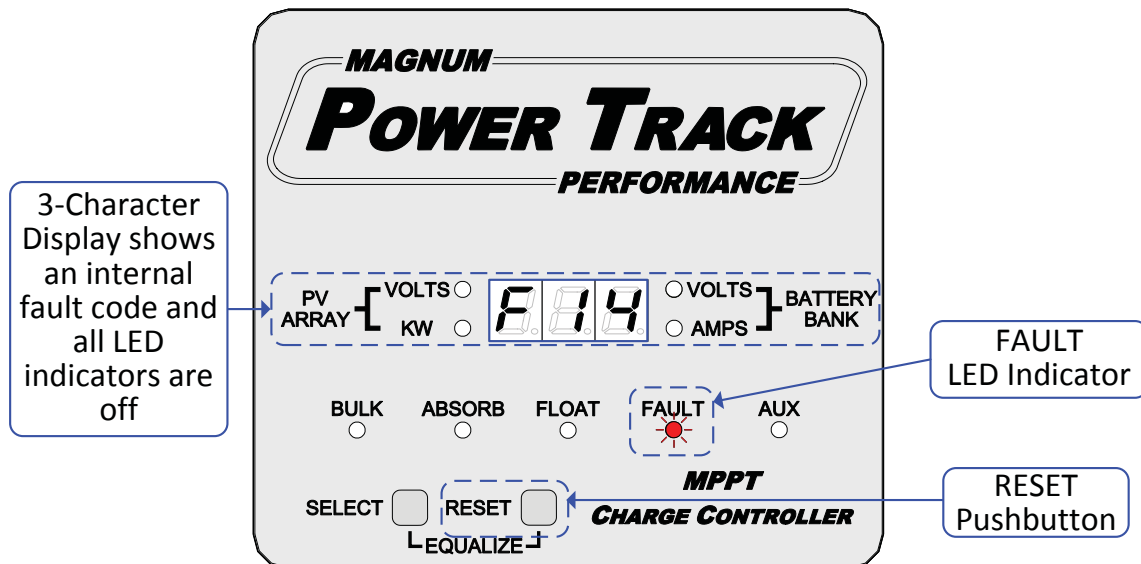

Figure 5-3, PT Controller Reset
3. Press and hold the RESET pushbutton (see Figure 5-3) for ten (10) seconds until the PT controller begins performing the diagnostic power-up test routine (see Section 2.12.2).